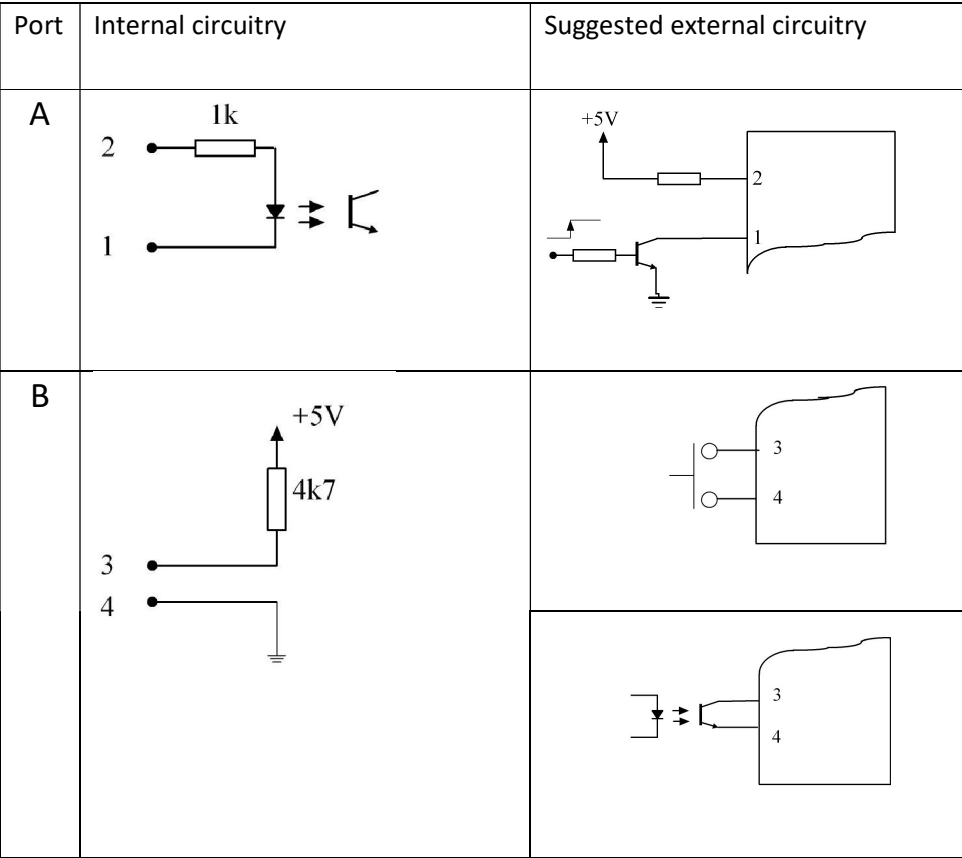

Figure 8 - Applying Digital Inputs
One of the inputs (A) is galvanically isolated (via opto-coupler) and is therefore intended for an external ground-referenced signal, such as a digital output of another electronic device. The other input (B) is to be used for an external “floating” signal, such as contacts of a mechanical/magnetic key/switch (see Figure 8).